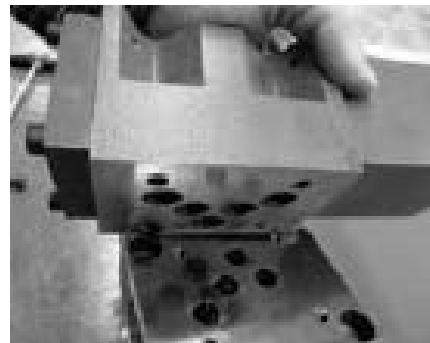

Figure 5. Mount the AxisPro valve to the adaptor plate.
5. Mount the AxisPro valve to the adapter plate (Figure 5)